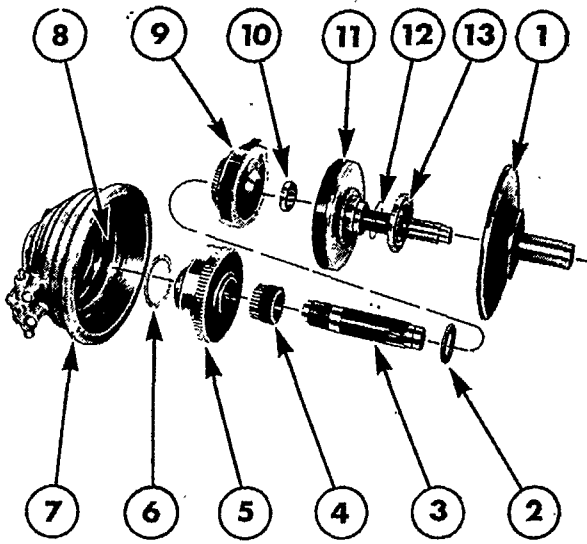

Figure 9
13. Remove the ring gear and shaft assembly, Figure 9, from the housing.